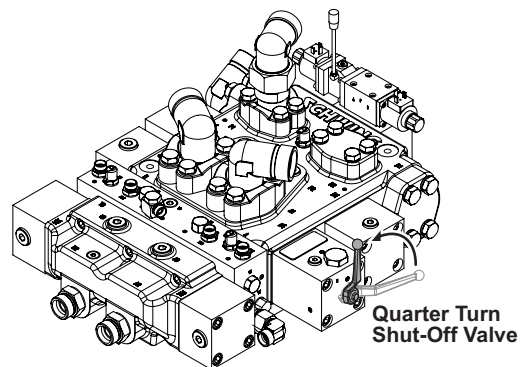

Figure 14
1. Close the concrete pump quarter turn shut-off valve located on the concrete pump control block (Figure 14).